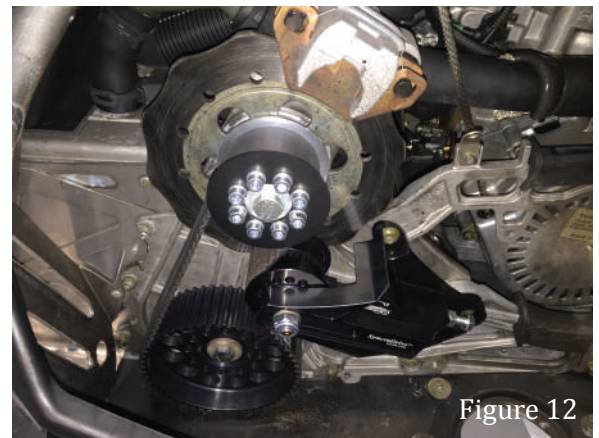

Figure 12
11. Install the factory lower gear bolt with factory washer use red Loctite and torque to 45 ft. lbs. See fig 12.